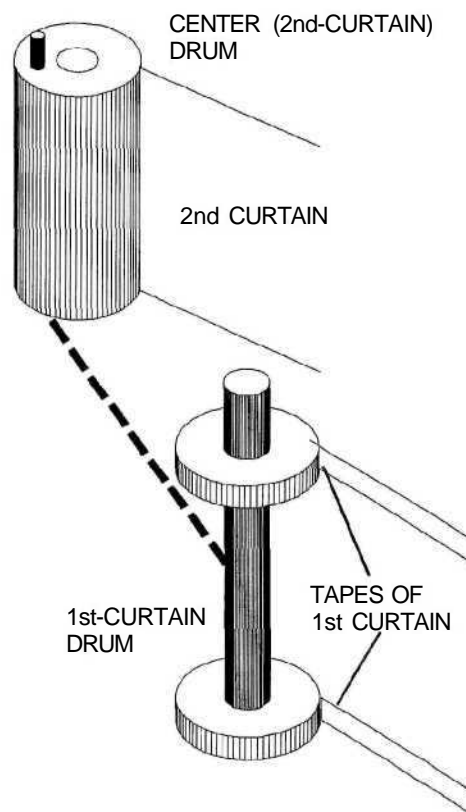
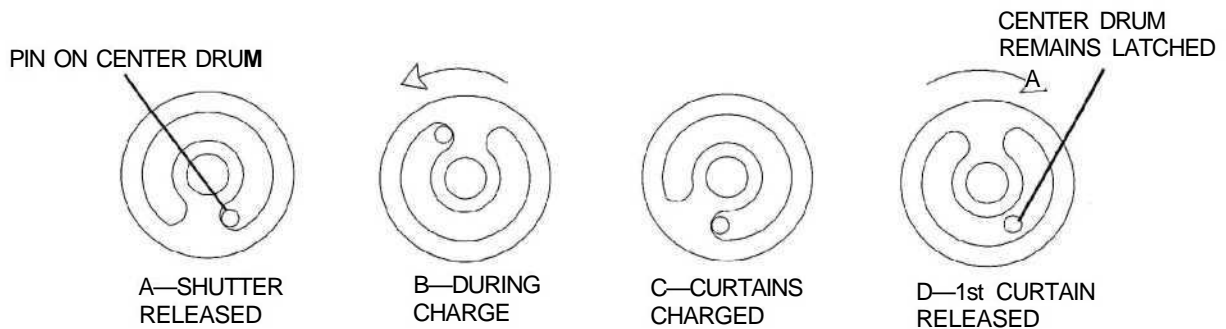

FIG. FP8 Construction of the curtain drum.
FIG. FP10 Top section of 1st-curtain drum.
Fig. FP8 shows the construction of the drum. A shaft joins the two end sections. But the center section can rotate freely around the shaft.
Fig. FP10 shows how the two sections of the drum are locked together during the charge cycle. Note the pin on top of the center drum, Fig. FP8. The pin passes through a cutout in the top section of the 1st-curtain drum, Fig. FP10.
As you cock the shutter, the cocking mechanism turns the 1st-curtain drum as shown by the curved arrow, Fig. FP10 (B). The 1st-curtain drum then comes against the pin on the center drum. So, as the 1st-curtain drum turns counterclockwise, it turns the center drum in the same direction.
For the full-aperture speed, the 1st curtain completely crosses the focal-plane aperture. A disengaging lever attached to the 1st-curtain drum then strikes and disengages the 2nd-curtain latch. Now the center drum can rotate. Notice in Fig. FP10 (D) that the center drum can turn freely in a clockwise direction—its pin no longer comes against the upper section of the 1st-curtain drum.